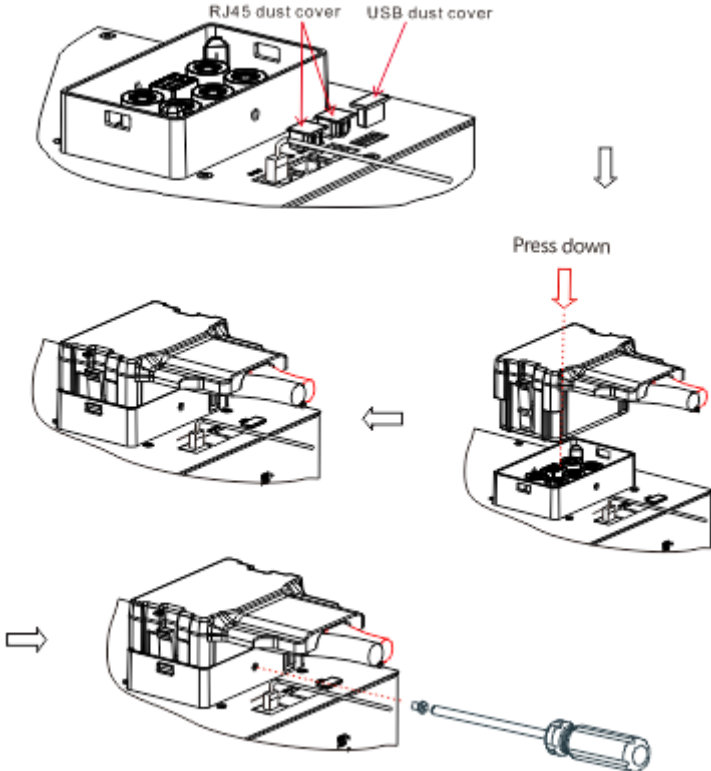

Figure 13: Power connection
- 1) Refer to Figure 13 for power line wiring.